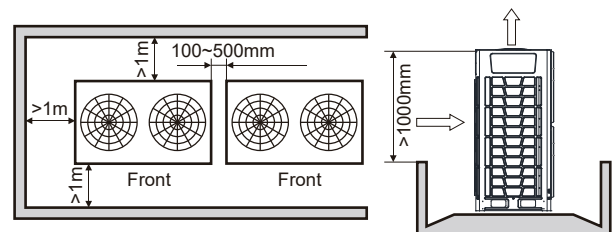

Fig. 3.12 1 row
- 3) When outdoor units are higher than surrounding barriers and they will be arranged in a row, please see Fig. 3.12.